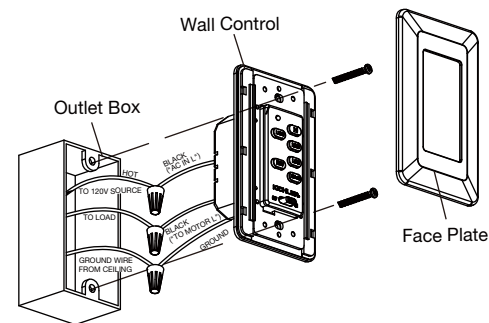

Fig. 30
**Step 2.** Place the wall control to the outlet box, connect the wires with wire connectors provided. (Fig. 30)
**Step 3.** Secure the wires connections and make sure there are no loose strands or connections. Put wire connections back inside outlet box and secure the wall control to outlet box with screws provided. Snug the face plate to wall control. (Fig. 30)